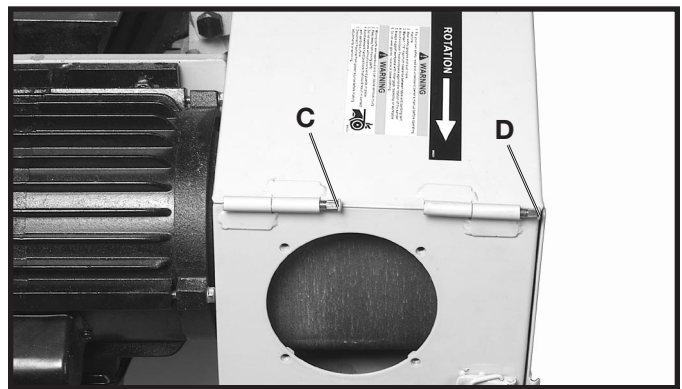

Fig. 15
2. Insert hinge pins (C) and (D) Fig. 15, through the hinges on the cover and belt guard.